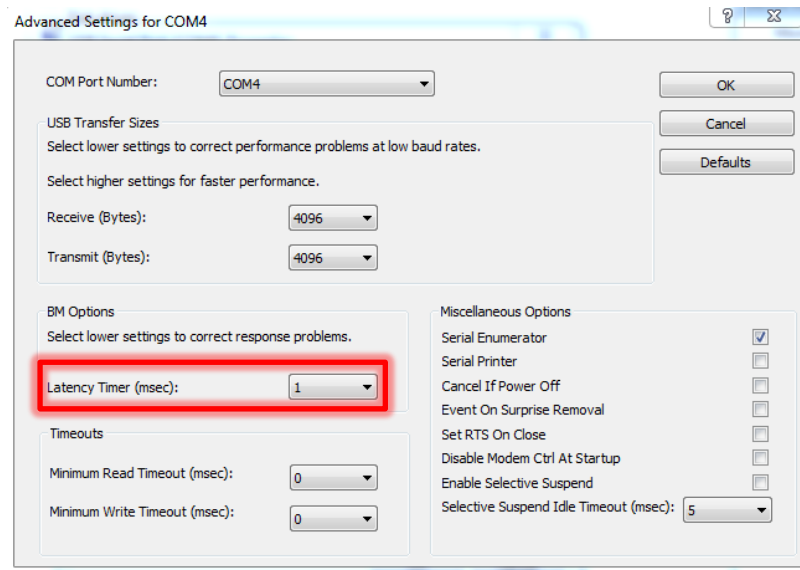

Figure 12 – USB serial port advanced settings
4. Under the *BM Options* section set the *Latency Timer (msec)*: field to 1 as shown in Figure 12.